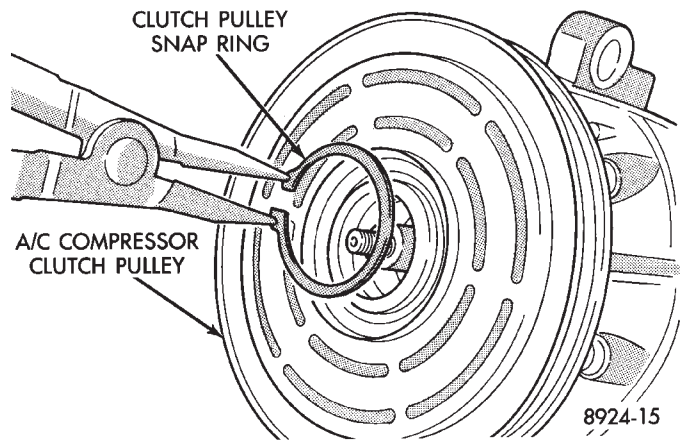
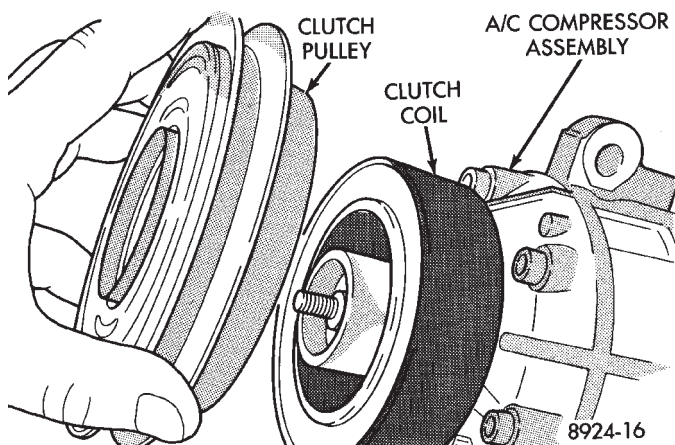
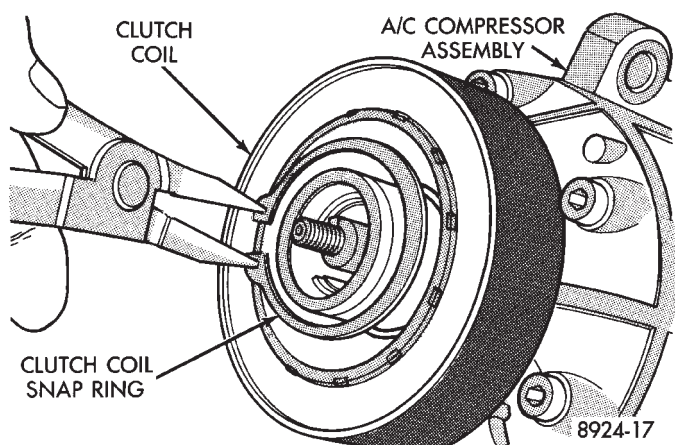
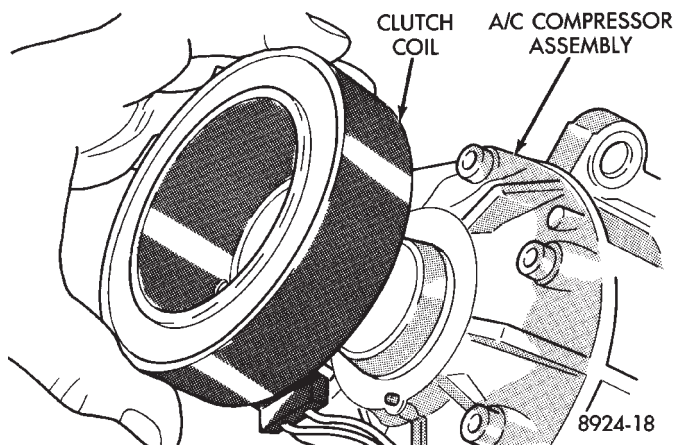

Fig. 7 Remove or Install Pulley Snap Ring
Fig. 8 Remove or Install Pulley
Fig. 9 Remove or Install Clutch Coil Snap Ring
Fig. 10 Remove or Install Clutch Coil
(3) Remove clutch pulley retaining snap ring (Fig. 7) and pull the pulley from the assembly (Fig. 8).
(4) Remove the clutch coil wire lead strap screw.
(5) Remove clutch coil retaining snap ring (Fig. 9) and pull the coil from the assembly (Fig. 10). When installing the clutch coil, align the pin on the front of